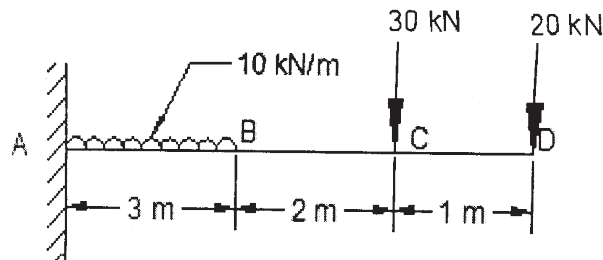

Fig. No. 4
- c) A cantilever beam is loaded as shown in Fig. No. 4. Draw the SFD and BMD.